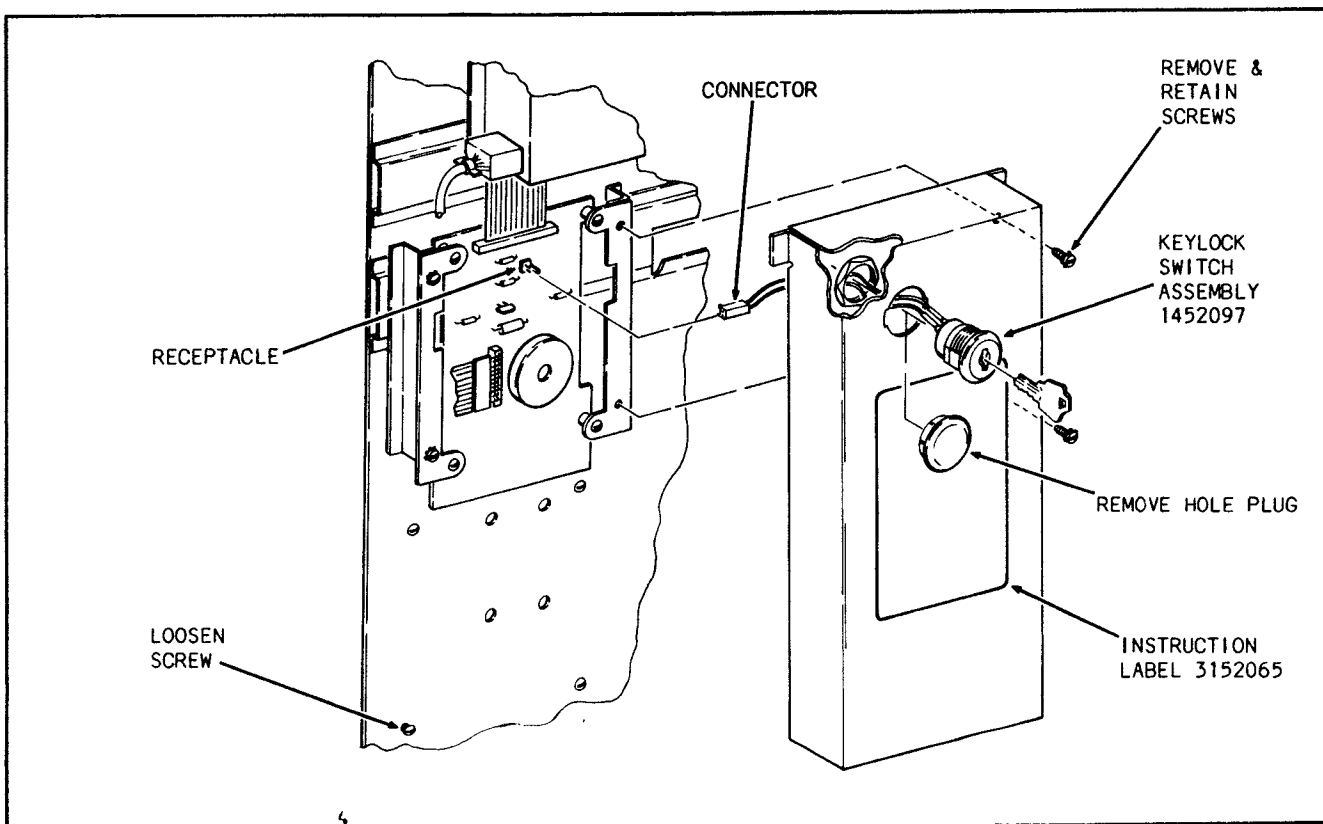

FIGURE 1
1. Remove screws holding the cover to the keylock switch PCB Display Assembly. Retain screws. See Figure 1 or 2.
1. Install the keylock switch onto the cover removed above. Tighten switch nut. See Figure 1 or 2.
2. Position cover onto keylock switch PCB Display Assembly while plugging connector onto receptacle on Circuit Board. See Figure 1 or 2.
3. Position cover to replace the screws removed above. See Figure 1 or 2.
4. Install Label provided onto above cover. See Figures 1 or 2 and 3.